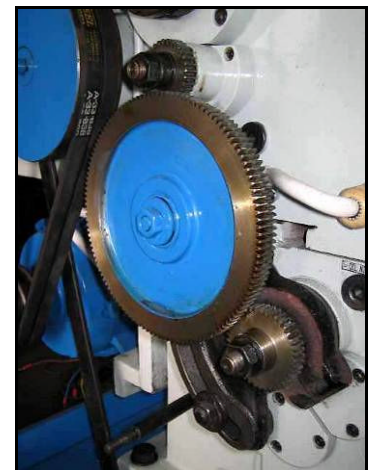

Figure 38 – Gears.
2. Unscrew the fastening nuts and disassemble the gears (see Figure 38);